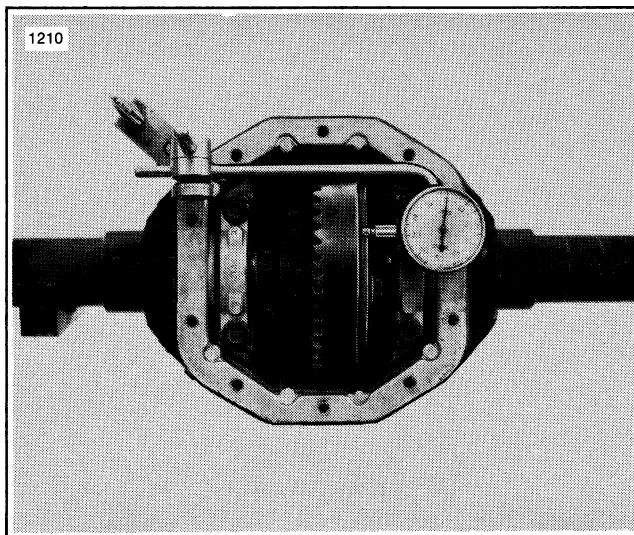

Figure 3-10. Ring Gear Runout Check
5. Check "ring gear runout" with dial indicator (Figure 3-10). Place contact point of dial indicator on back face of ring gear. Rotate ring gear one complete revolution. Maximum runout is .006 in. (.15 mm). Reading in excess of specification indicates loose or warped ring gear, dirt or burr on ring gear mounting surface, or sprung differential case.